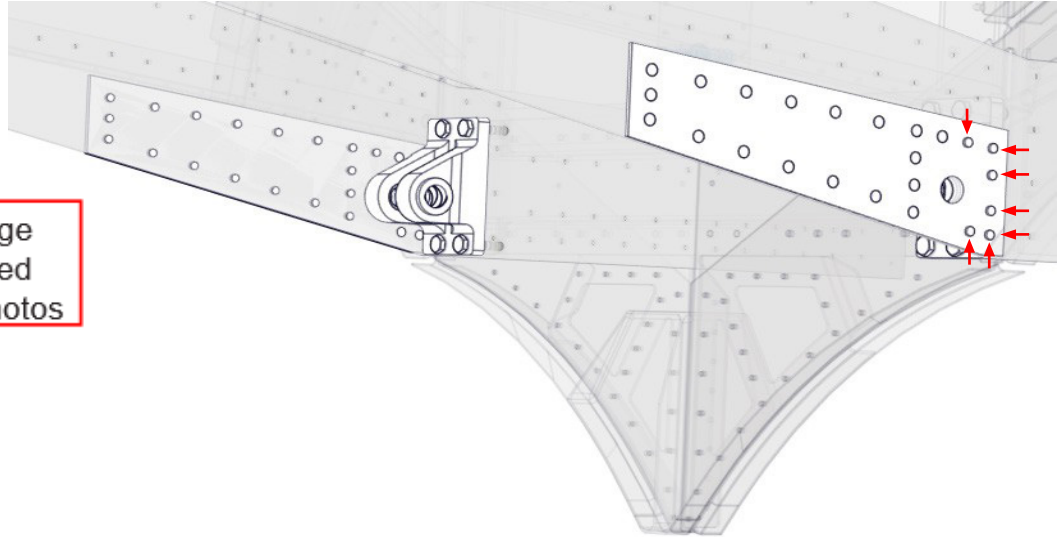

Figure 3
9. Remove each trunnion and backdrill the remaining (6) rivet holes (indicated by arrows in figure 3).
10. Countersink the (6) rivet holes on the inboard side of each carry through strap.